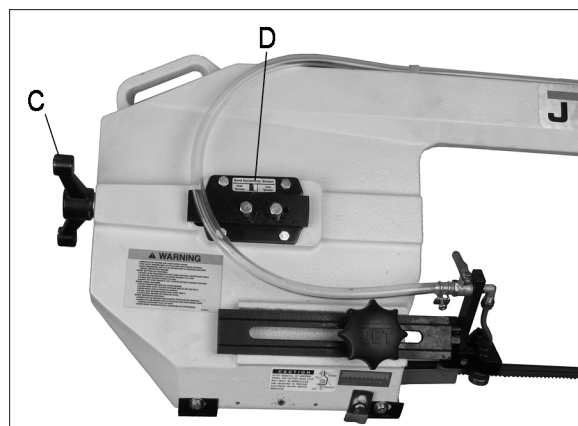

Figure 20
5. Loosen blade tension by turning handle (C, Figure 20) counterclockwise.
3. Lightly tension blade to remove any sag by turning handle (C, Figure 20) slightly clockwise.
4. Turn tension handle (C, Figure 20) 1-3/4 to two revolutions clockwise. This is equivalent to 800 kg (1764 lb) of blade tension.
8. Tighten blade by turning handle (C, Figure 20) two full revolutions.
TIP: Slacken blade tension when finished with operations to prolong blade life. Make note of indicator position on tension label (D, Figure 20) for quickly returning tension to its previous setting.